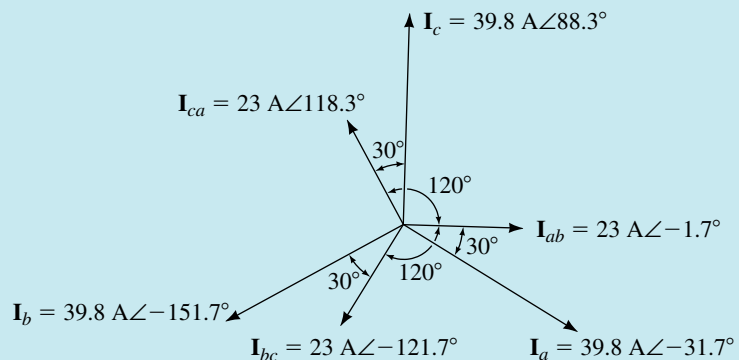

FIGURE 23–14
- c. Phasors are shown in Figure 23–14.
1. For the circuit of Figure 23–13, if $\mathbf{I}_a = 17.32 \text{ A} \angle 20^\circ$, determine